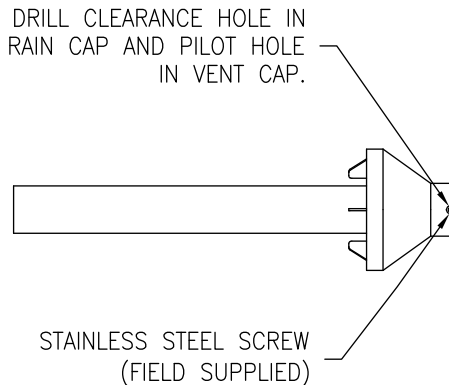

Figure 21. Rain Cap to Small Vent Pipe Assembly.
- b. Cement rain cap to smaller diameter pipe. (See Figure 21).
- b. Cement rain cap to smaller diameter kit pipe. (See Figure 21).